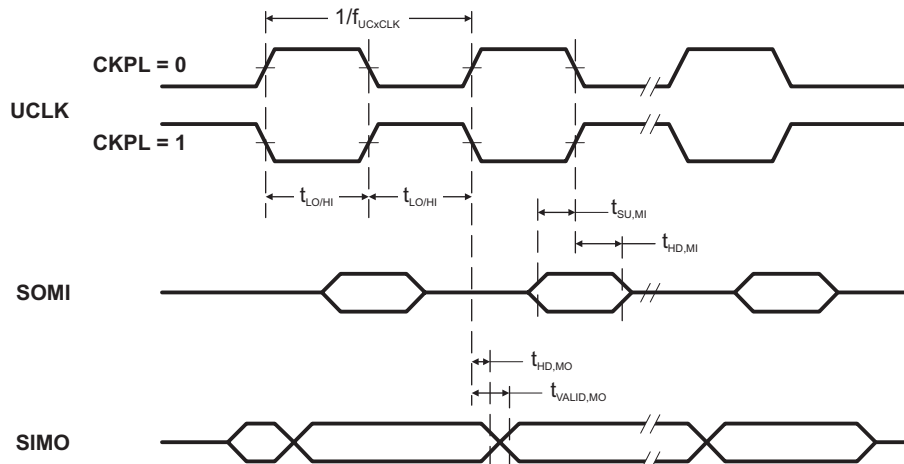

Figure 11. SPI Master Mode, CKPH = 0
(see Note ⁽¹⁾, Figure 11 and Figure 12)
(2) Specifies the time to drive the next valid data to the SIMO output after the output changing UCLK clock edge. Refer to the timing diagrams in Figure 11 and Figure 12.
(3) Specifies how long data on the SIMO output is valid after the output changing UCLK clock edge. Negative values indicate that the data on the SIMO output can become invalid before the output changing clock edge observed on UCLK. Refer to the timing diagrams in Figure 11 and Figure 12.
- (2) Specifies the time to drive the next valid data to the SOMI output after the output changing UCLK clock edge. Refer to the timing diagrams in Figure 11 and Figure 12.
- (3) Specifies how long data on the SOMI output is valid after the output changing UCLK clock edge. Refer to the timing diagrams in Figure 11 and Figure 12.